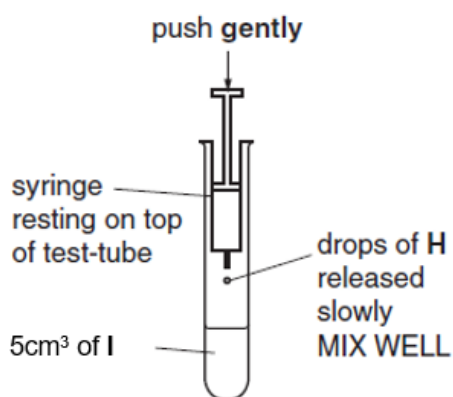

Fig 1.1
2. Use a syringe, containing 2 cm³ of **H**, to put drops of **H** into **I** as shown in Fig. 1.1.